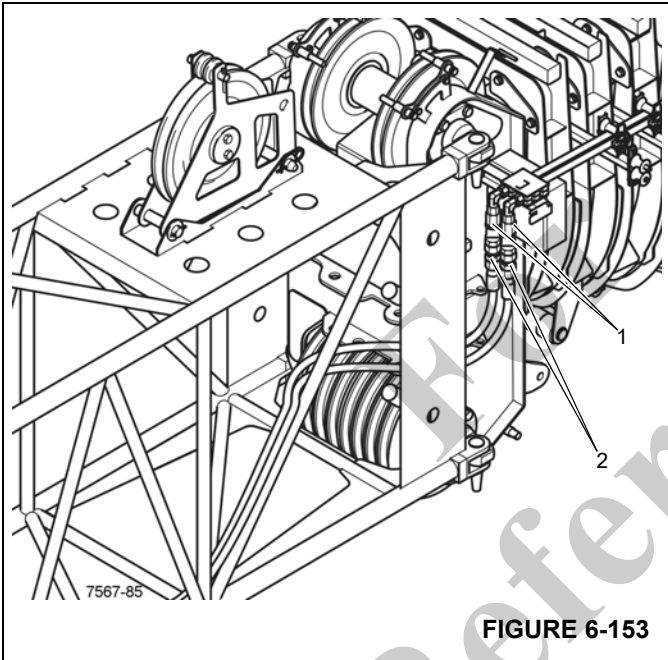

FIGURE 6-153
1. If necessary, install the hydraulic hoses (1), (Figure 6-153) on the boom nose. Refer to *Extension Hydraulic Connections (Optional Hydraulic Extension)*, page 6-59.
2. Route the short ends (2), (Figure 6-153) to the main boom head.
3. Remove the protective caps and connect the short ends (2), (Figure 6-153) to the boom nose connectors (1), (Figure 6-153).
1. Disconnect the short hose ends (2), (Figure 6-153) from the boom nose connectors (1), (Figure 6-153).
3. Route the short ends (2), (Figure 6-153) inside and place them in front of the lower cross-strut so that they do not hang down.